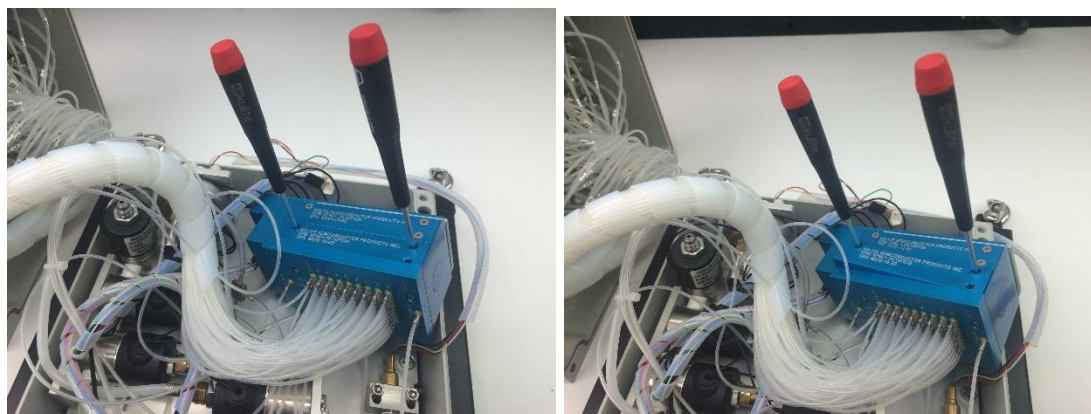

Figure 5: Removing Modules
Step 4: Using 2 Hex Drivers, gently remove modules by levering them out. (See Figure 5).